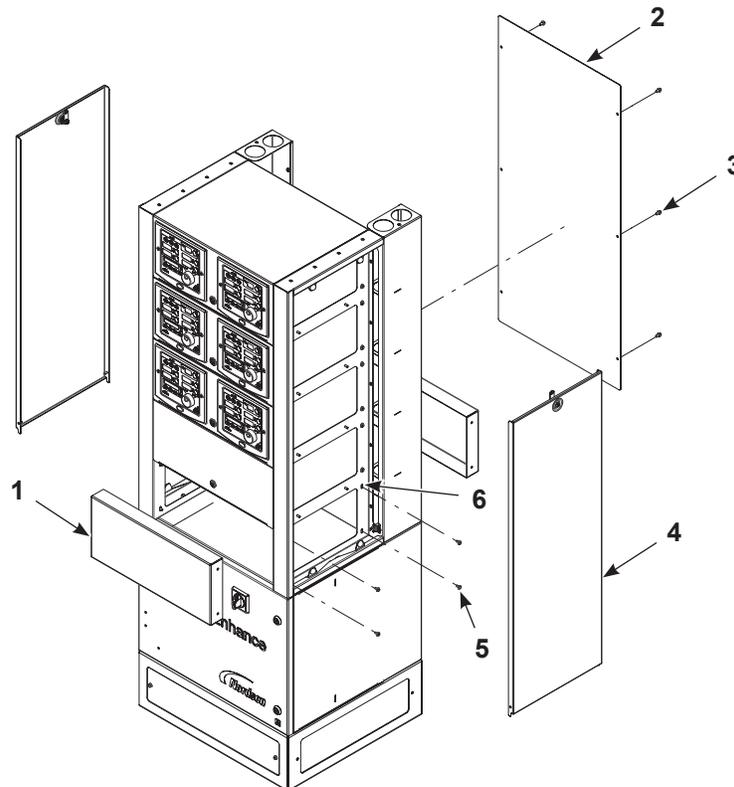

Figure 10-1 Removing Blank Panels
1. See Figure 10-1. Remove the side panels (4) from stack frame.
2. Remove the screws (3) and back panel (2) from the stack frame.
3. Remove the screws (5) and blank panels (1). Retain the screws for installing the spray controller.
4. Slide the new spray controller module into the stack frame and secure in place with the retained screws (5). Use the slots (6) on the stack frame for any adjustments needed for fit.